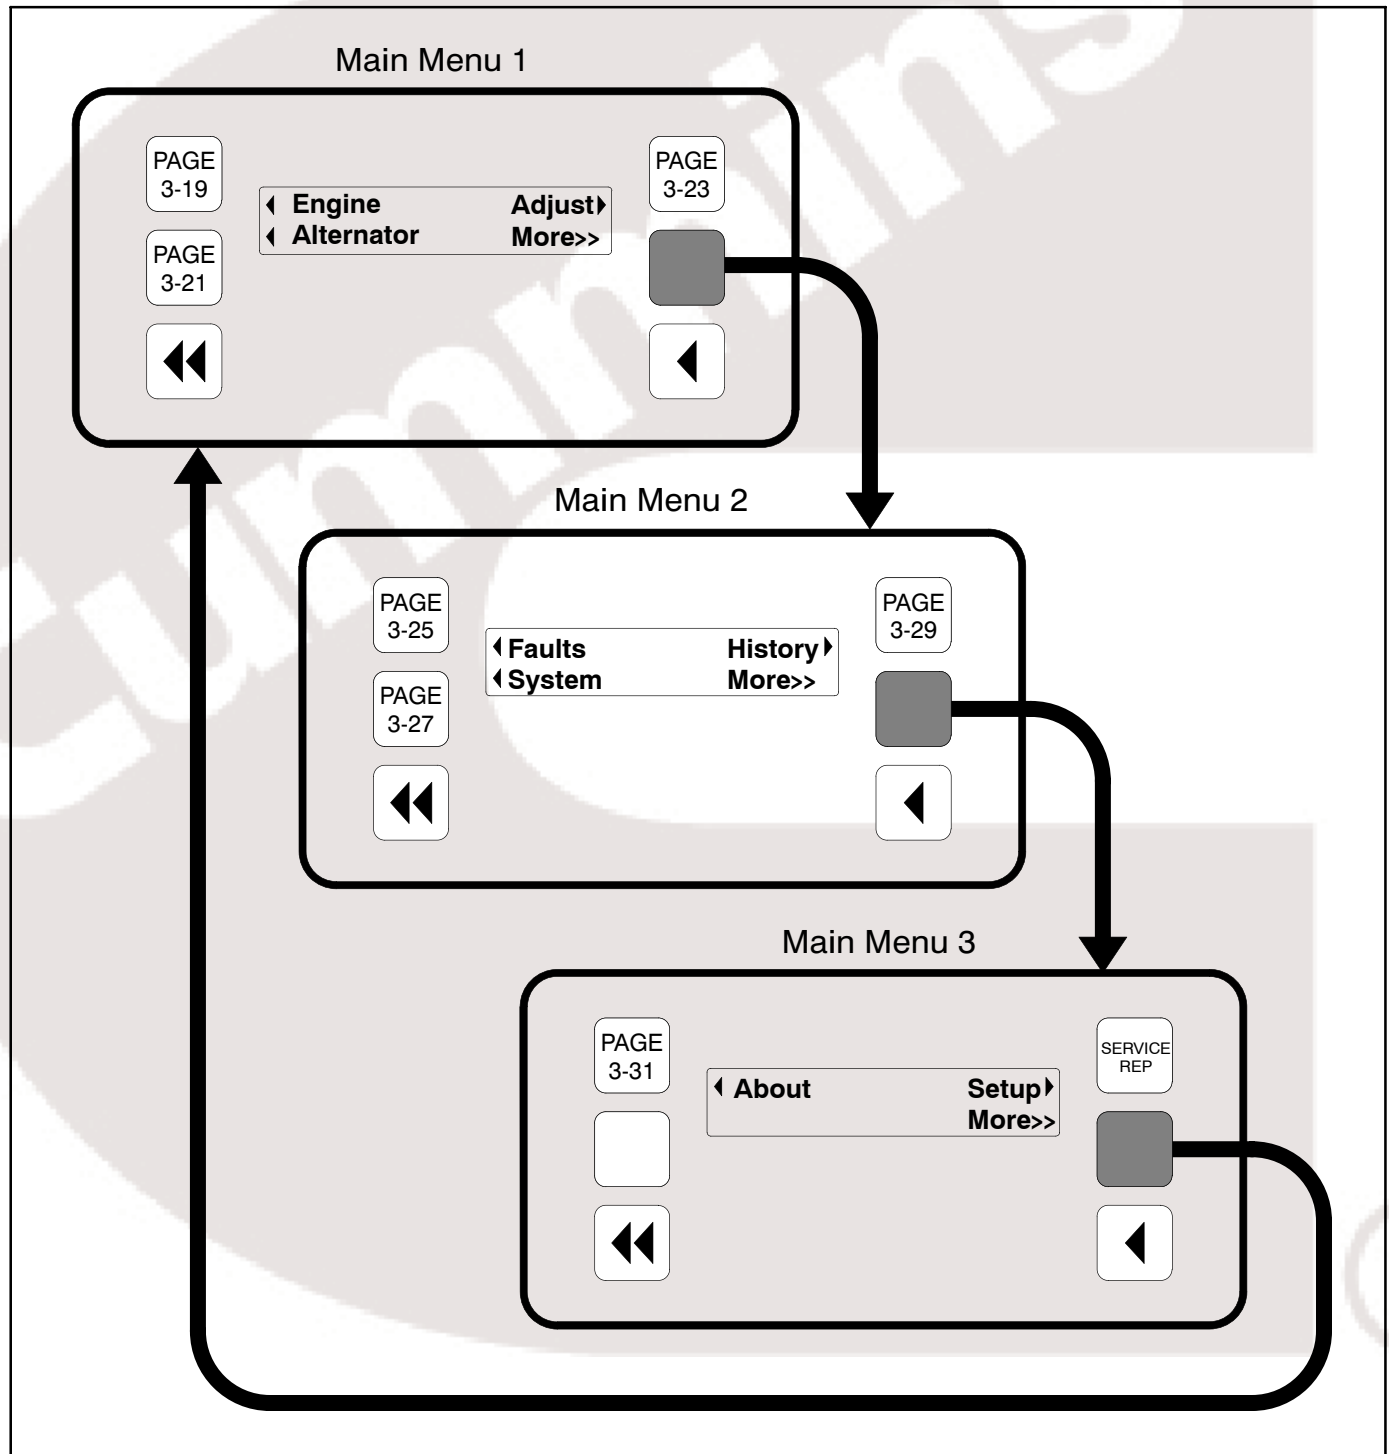
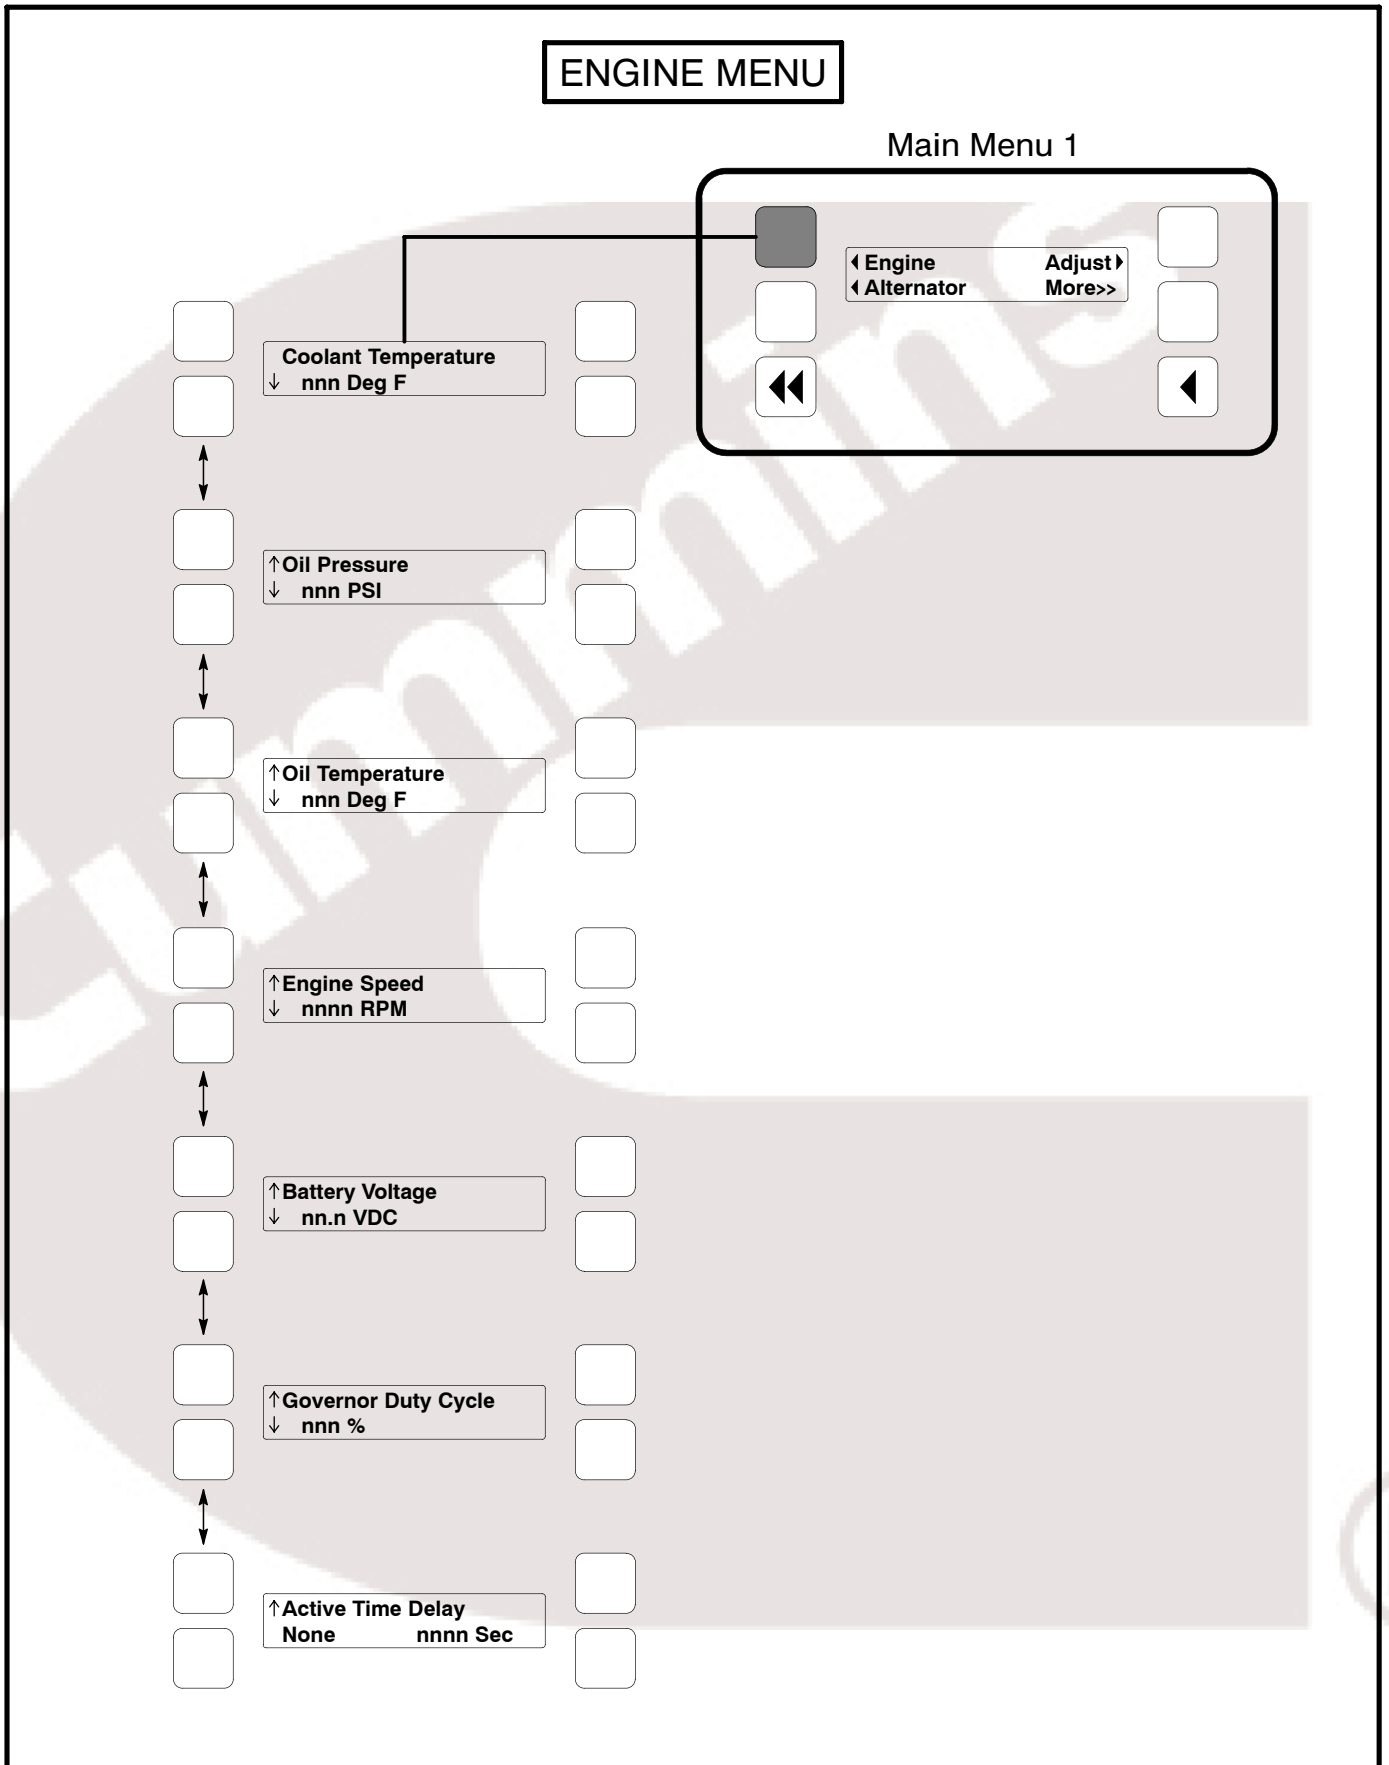

FIGURE 3-5. MAIN MENUS
FIGURE 3-8. ENGINE MENU
- In the digital display for main menus (Figure 3-5), the ◀ and ▶ symbols indicate that pressing the adjacent button causes the operating program to go to the selected submenu (e.g., Engine Menu in Figure 3-8).
- In the digital display, the More>> symbol indicates that pressing the adjacent button causes the operating program to go to the next main menu, as shown in Figure 3-5.
Home Button: Pressing this button causes the operating system to show Main Menu 1 (Figure 3-5) in the digital display.
Figure 3-5 shows the three major main menus available to the user. Figure 3-5 also includes references to pages in this section where you can find additional information on submenus. When viewing a submenu, you can press the previous main menu button at any time to view its main menu.
Figure 3-8 shows a block representation of the Engine menu. If you press the button next to the word “Engine” in the display, the first Engine submenu is displayed.